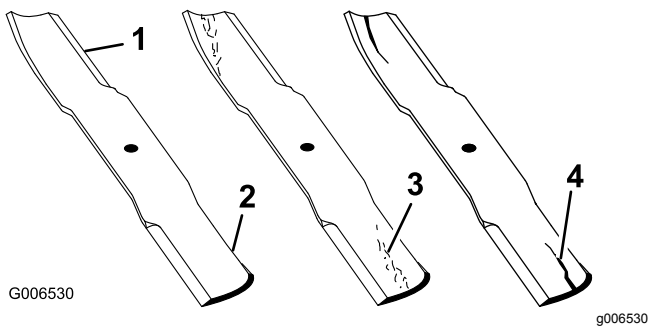

Figure 64
1. Inspect the cutting edges (Figure 64).
4. If you notice any cracks, wear, or a slot forming in this area, immediately install a new blade (Figure 64).